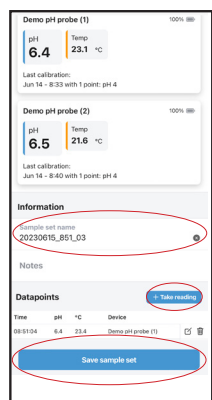
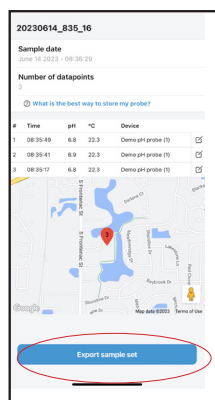
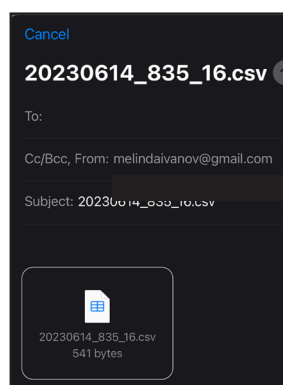

Figure 5
Figure 6
Figure 7
- The Sample Set can be renamed by clicking the X and typing the desired name (Figure 5)
- Select **+Take Reading** to take additional measurements to be included in the same Sample Set (Figure 5)
- Select **Save Sample Set** - the screen will show the sample date, number of data points, measurement values and geo-referenced location of the samples taken (Figure 5/Figure 6). After the sample set is saved, it cannot be modified
- Select **Export Sample Set** to export data into a .csv file that can be saved or emailed (Figure 6/Figure 7)